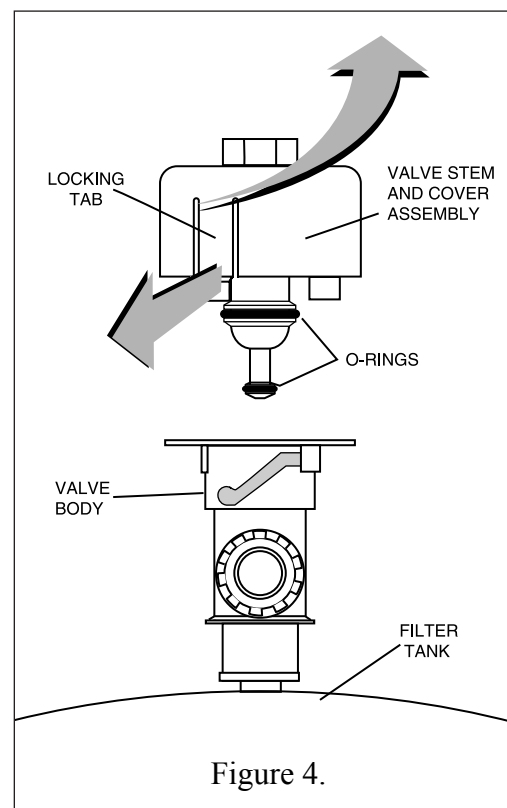

Figure 4.
- With the relief valve attached to the filter tank, pull out the locking tabs and remove the valve stem and cover assembly with a counter clockwise and lifting motion, see Figure 4.